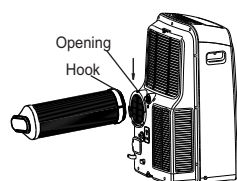

Fig. 17
2. Align the hooks on adaptor A to the openings of the air outlet. Insert and slide downwards to install. (Fig. 17)